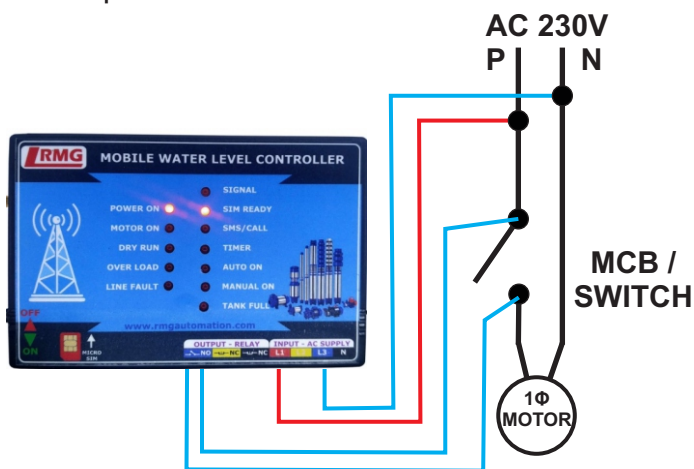
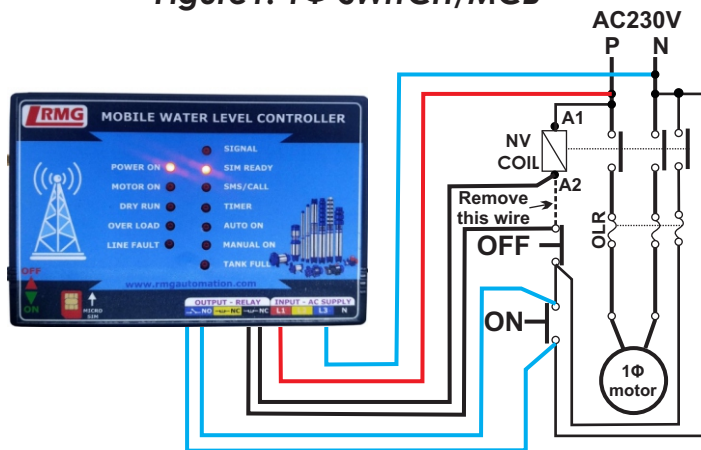
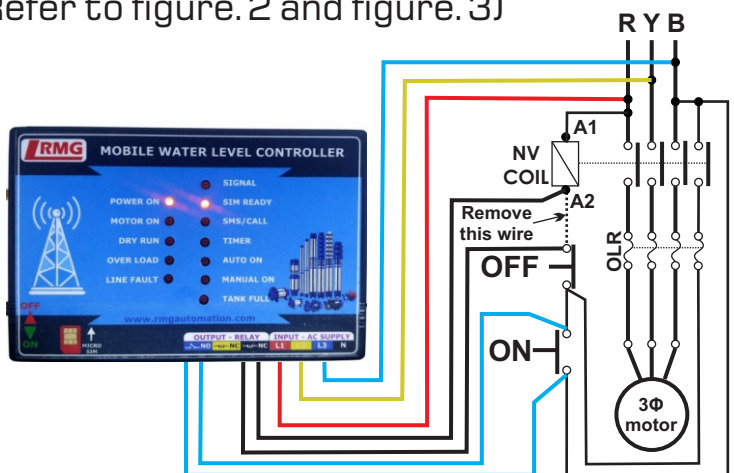

Figure1: 1Φ SWITCH/MCB
Figure3: 1Φ Starter
Figure2: 3Φ Starter
Step 3: For Single Phase --> Connect AC 230V to Red and Blue wires of GSM controller respectively. (refer figure 1). Do not use the yellow wire and dummy it. For Three Phase --> Connect R,Y,B to L1, L2 and L3 input of the starter. (Refer figure 2)
Step 4: For Switch or MCB, Connect blue pair wire to the switch/MCB of the motor in parallel as shown in figure 1.
Step 5: For starter, Connect blue pair wires to ON button of starter in parallel and black pair wires to OFF button in series (Refer to figure. 2 and figure. 3)